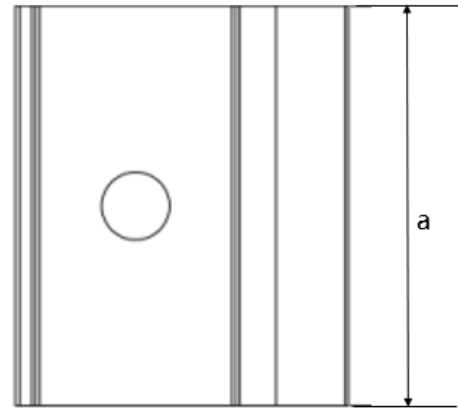
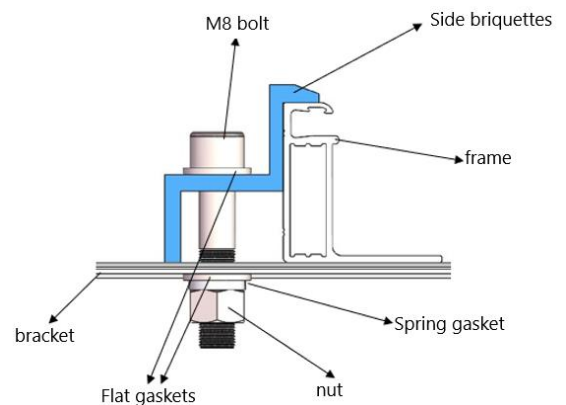

Fig. 7 Top view of fringe clamp
Fig. 9 Installation schematic diagram of fringe clamp
- ③ The top surface of the rail contacted with module frame should be equipped with grooves compatible with an M8 bolt.
- ④ If the grooves are not provided, holes of a suitable diameter may need to be drilled to allow bolts attaching to the rail at the same locations as mentioned above.
- ⑤ Ensure that the mounting sequence of each clamp is in the order of flat washer, spring washer and nut.
- ⑥ Figures 7 and 8 show the schematic diagram of the clamp, while Figures 9 and 10 show the installation schematic diagram of the clamp. The dimensions of the clamp are as follows: Length(a) ≥ 50 mm, with a thickness of at least 4mm, and an overlap with the frame (d) ≥ 10 mm; or Length(a) ≥ 60 mm, with a thickness of at least 3mm, and an overlap with the frame (d) ≥ 8 mm. The clamp section can be changed under the premise of ensuring reliable installation, and it must not extend beyond the frame to avoid contact with the glass.
- ⑦ Modules sized 2384*1303mm and above are only suitable for a clamp dimension of length(a) ≥ 60 mm.
- ⑧ The tightening torque is suggested to be 17~23N•m for Class 8.8 screw and bolts.